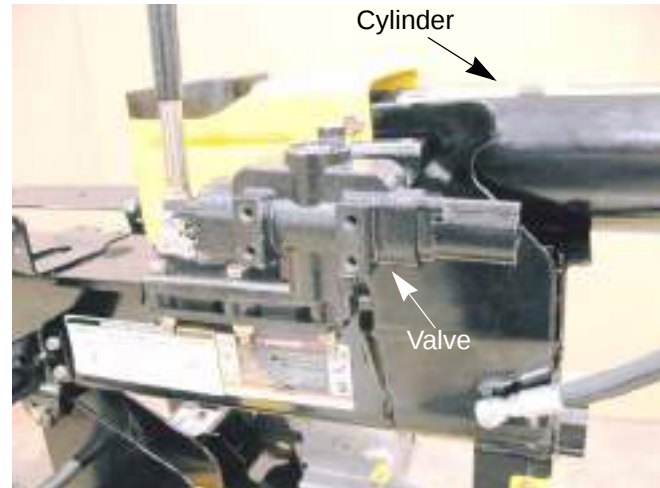

Figure 4.8
25. Align the valve so that it is parallel to the cylinder. See Figure 4.8.